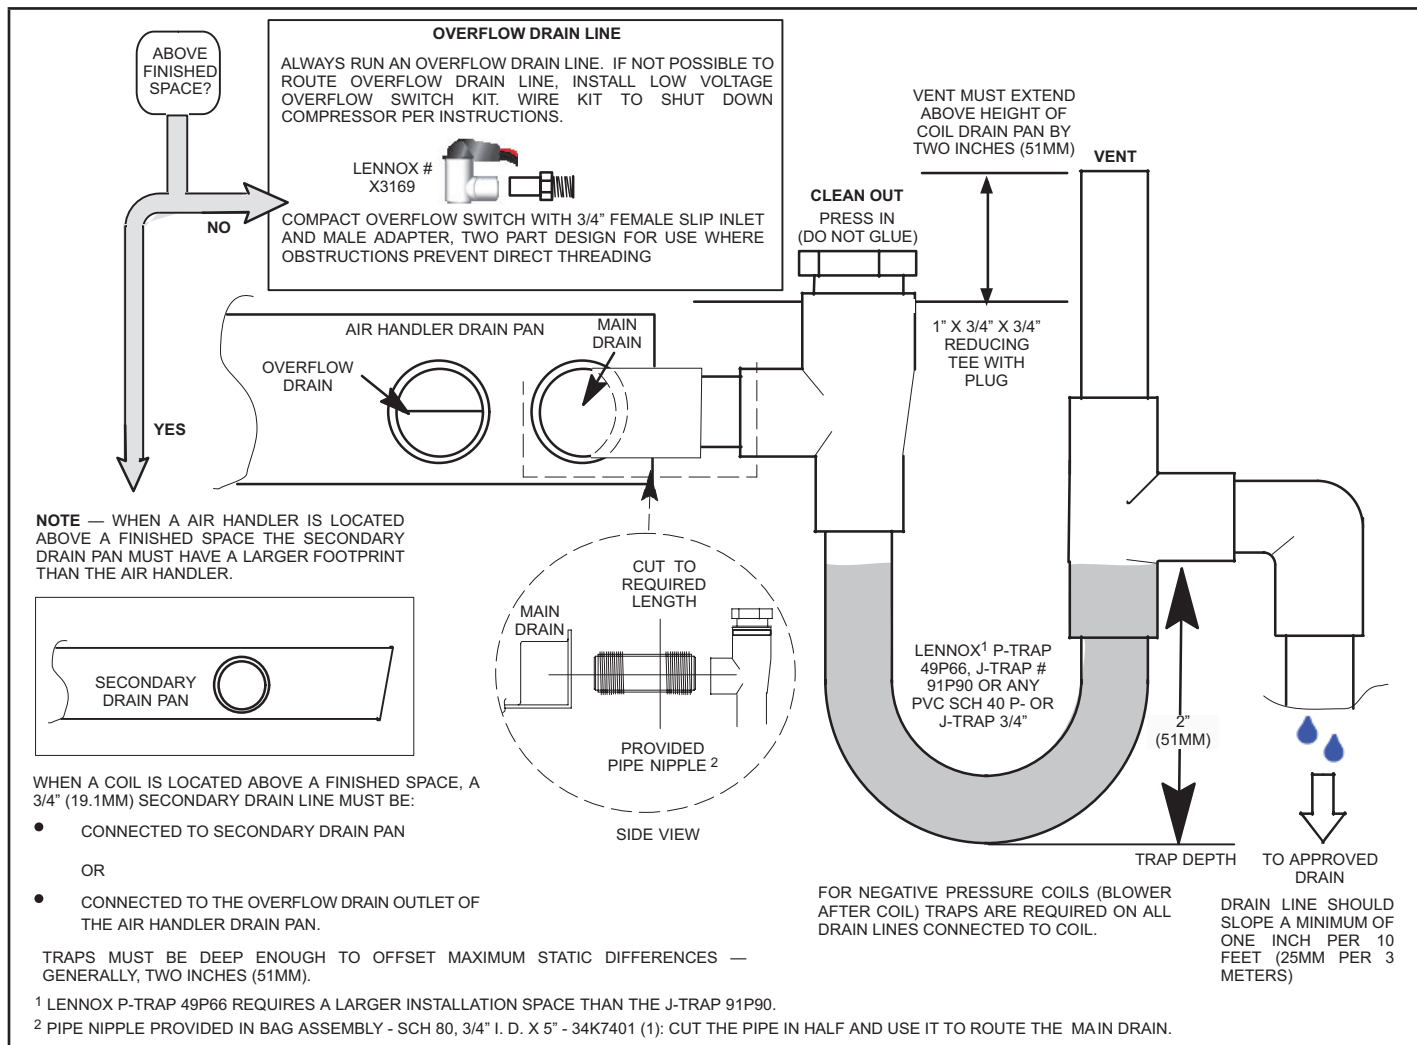

FIGURE 10. Typical Main and Overflow Drain
- 6 - Install a 2" trap in the main (primary) drain lines as close to the unit as practical (see figure 10). Make sure the top of the trap is below the connection to the drain pan to allow complete drainage of the pan.
NOTE - Horizontal runs must have an anti-siphon air vent (standpipe) installed ahead of the horizontal run. See figure 10. An extremely long horizontal run may require an oversized drain line to eliminate air traps.